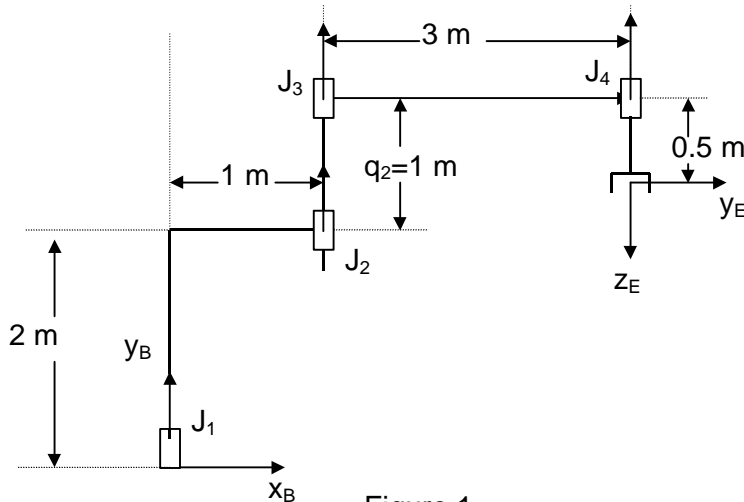

Figure 1
Q.1 Figure 1 shows a schematic diagram of a robot with four joints (J_1, J_2, J_3, J_4). All joints are rotational except for the 2nd joint J_2 , which is a translational joint. The axes of motion of all the joints are parallel to each other and to y_B , as indicated in Figure 1. Frame B is fixed to the ground and y_B is aligned with the first joint axis. Frame E is attached to the end-effector (last link) in a manner indicated in Figure 1.
- (d) Determine the values of the joint coordinates for the configuration shown in Figure 1. (3 marks)